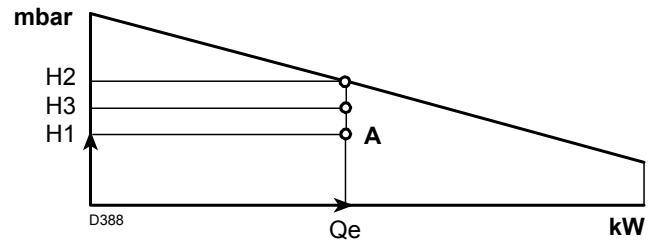

Fig. 40
point A that must remain within the firing rate (Fig. 40).
- 4 -Trace a vertical line from point A, Fig. 40, and find the maximum pressure H2 of the firing rate.
If H3 is greater than H1, as in Fig. 40, the burner can produce the delivery requested.